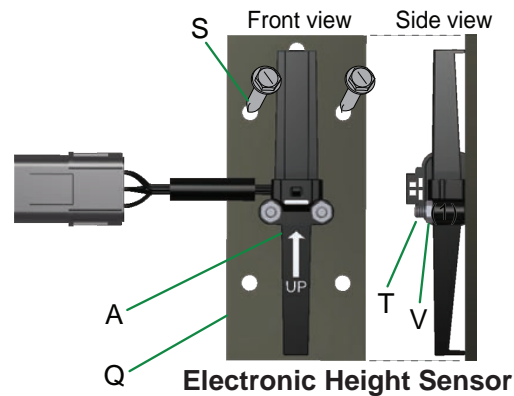

fig. 2
- Using the socket cap screws (T) and nylon lock nut (V), attach the electronic height sensor (A) to the bracket (Q). (Fig. 2)